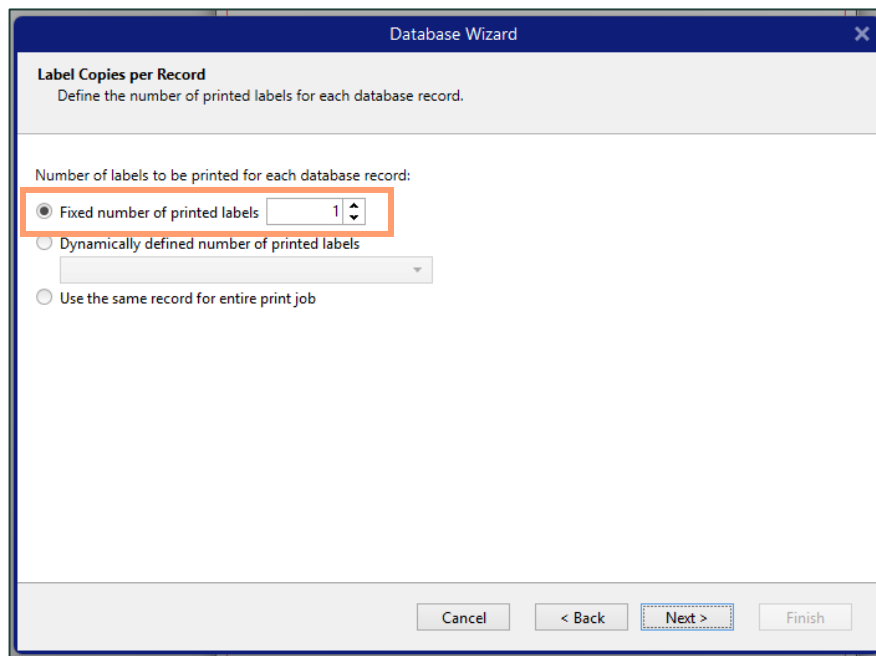

Figure 20: Text File Structure Wizard with fixed number of printed fields
14. After, select Next. In the Label Copies per Record fields, set to Fixed number of printed labels – 1– see **figure 20**. Then, select Next again.